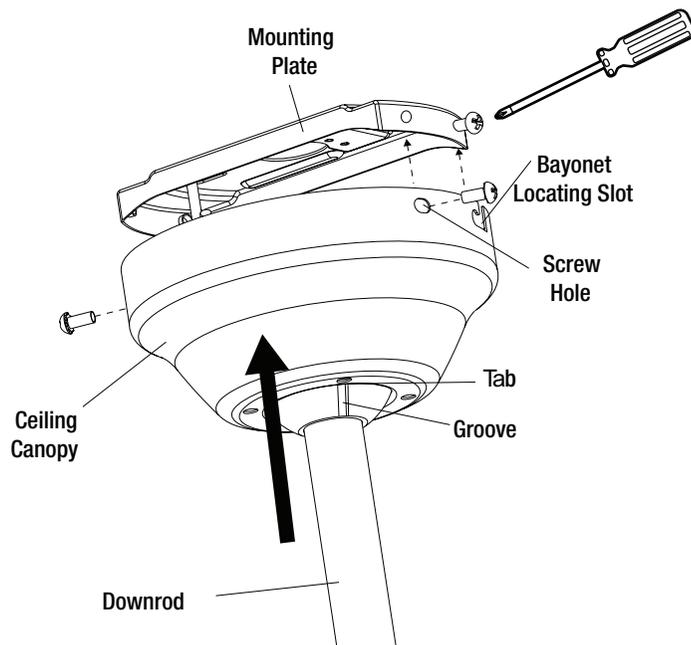

Figure 11
- When the electrical connections have been made, take the fan off the hook. Slide the ceiling canopy up the downrod, making sure that the ball joint groove engages with the ceiling canopy entry hole tab. Slide the bayonet slots on the ceiling canopy onto the screws at either end of the mounting plate, secure with the four screws provided (Figure 11).